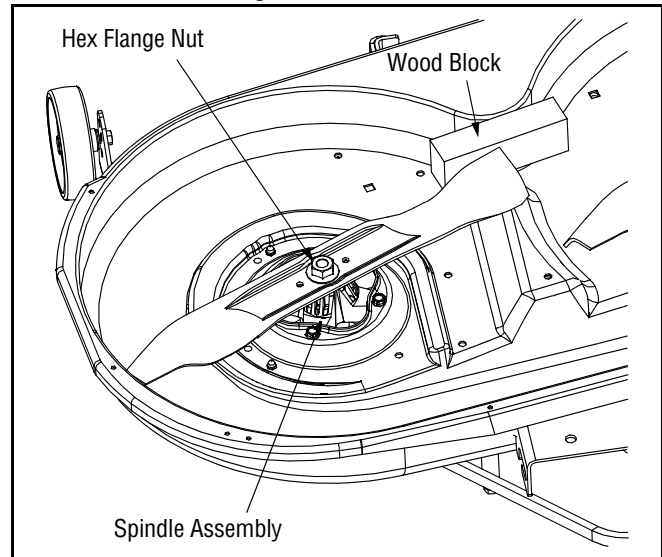

Figure 21
- Place a block of wood between the center deck housing baffle and the cutting blade to act as a stabilizer. See Figure 21.
- Use a 1-1/8" wrench to remove the hex flange nut that secures the blade to the spindle assembly. See Figure 21.